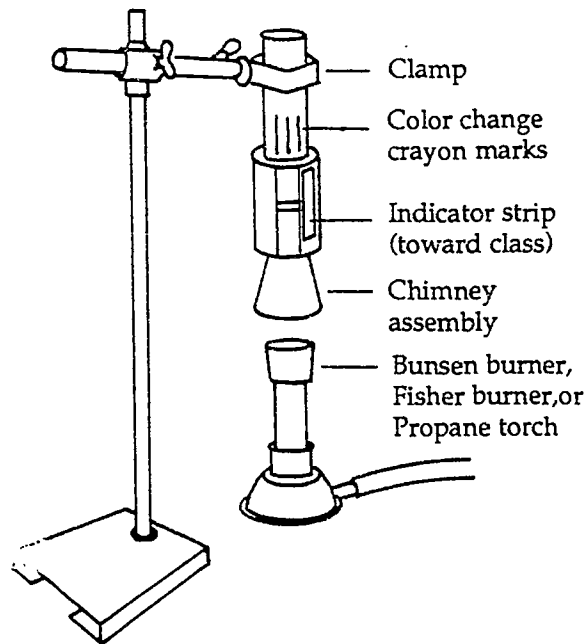

Figure 2. Demonstration setup.
1. Set up the apparatus, as shown in Figure 2 below.